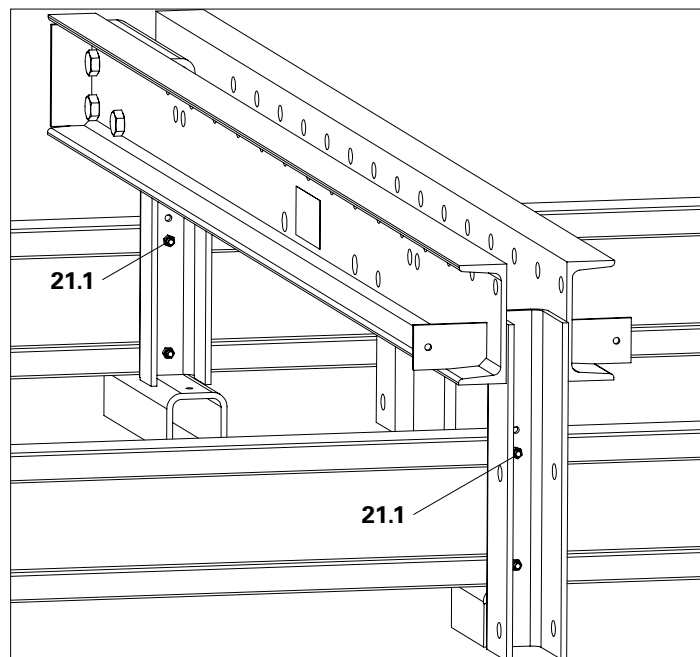

Fig. B2.03
- When using VT 20: Bolt the top chord to the Crossbeam by means of the bottom hole (21.1). (Fig. B2.03)
(Fig. B2.03)